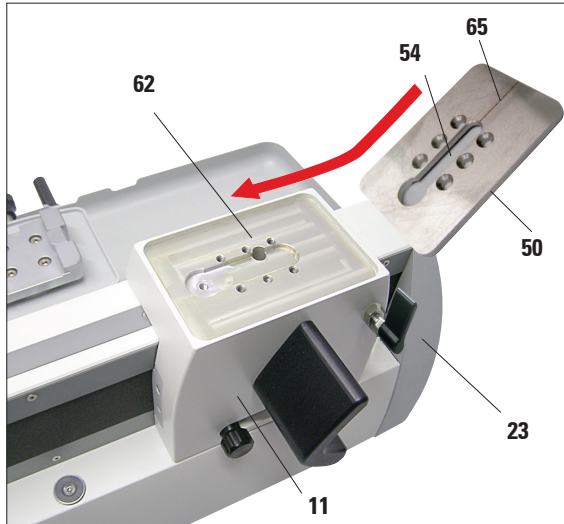
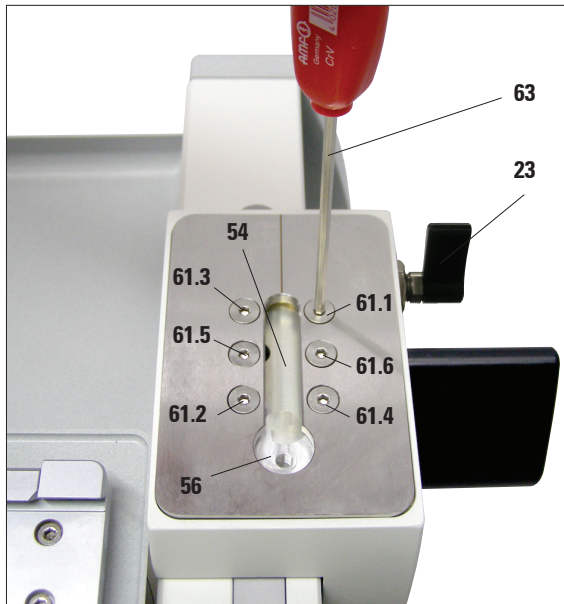

Fig. 15
Fig. 16
- As shown in Fig. 15, place the grooved plate on the mounting table. Make sure that the groove (54) for inserting the blade holder has the rounded opening (56) for the T-piece (Fig. 16) pointing forward.
- Insert the six countersunk screws (61.1–61.6) into the bores and tighten them crosswise (in the sequence shown in Fig. 16) using an Allen key T 25 (63).